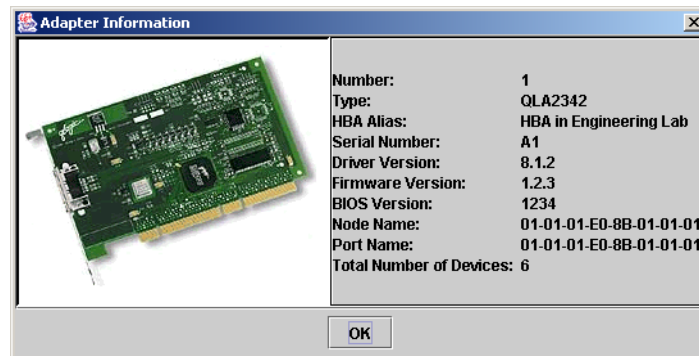

Figure 7-8. Adapter Information Dialog Box
1. Right-click in the Adapter *n* column heading. From the pop-up menu, select **Adapter Information**. The **Adapter Information** dialog box displays (see figure 7-8).